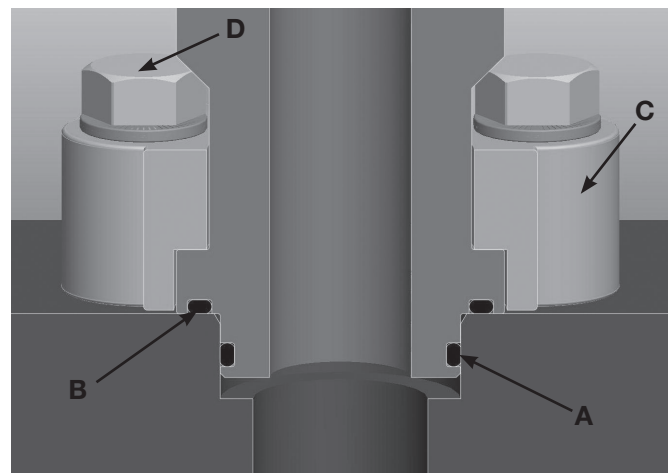

Fig. K4
As shown below, Dual Seal Flange connections use both a radial seal and face seal to achieve a superior leak free port connection. The primary radial seal (A) improves the pressure capabilities of this adapter to 7500 PSI while offering additional system integrity. The face seal (B) provides resistance of external pressures introduced by the application environment. The flange clamps (C) and bolts (D) are used to compress the O-rings into the port and provide the clamping force necessary. Reference Fig. K4 below.